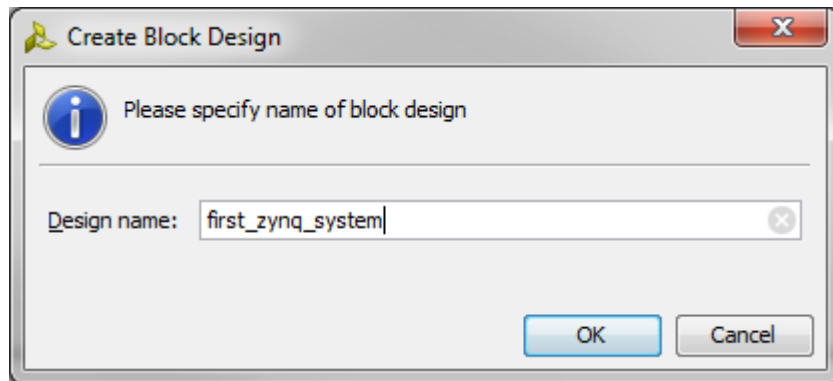

Figure 1.8: Create Block Design dialogue
- (b) Enter **first_zynq_system** in the Design name box, as in Figure 1.8: